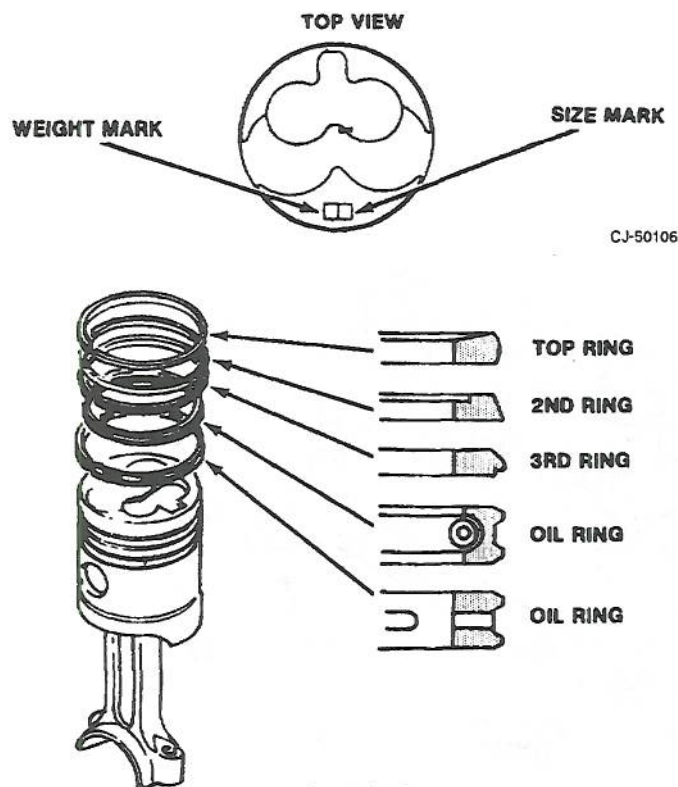

Figure 5-66. Piston and Ring Markings
- (7) Install retaining rings (1) in piston pins (2).
- (8) Install ring sets (3) on pistons using markings as shown in figure 5-66.